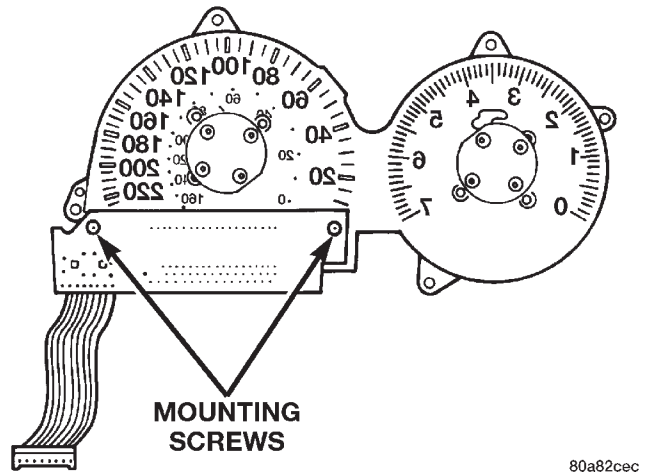

Fig. 8 Odometer/Transmission Range Indicator
(3) Remove screws attaching speedometer/tachometer to housing.
(4) Remove screws attaching from the back of speedometer and remove the odometer/transmission range indicator display (Fig. 8).